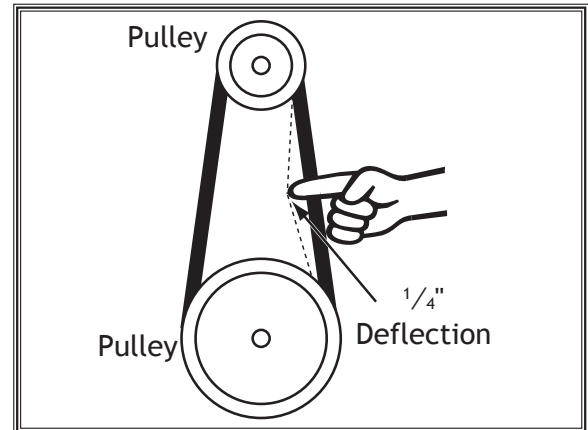

Figure 52. Testing for proper belt tension.
4. Press the belt with moderate pressure midway between the pulleys. The deflection should be approximately 1/4", as illustrated in **Figure 52**.